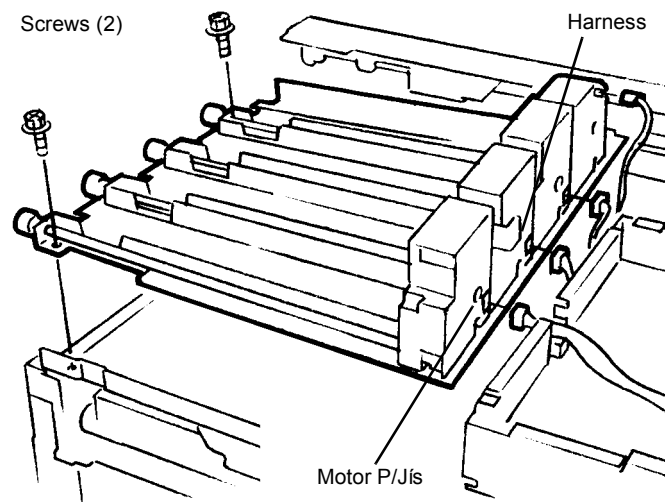

Figure 1 Removing Toner Dispense Module
9. Remove Toner Dispense Module (Figure 1).
- a. Remove Screws (2).
- c. Disconnect motor connectors (4).